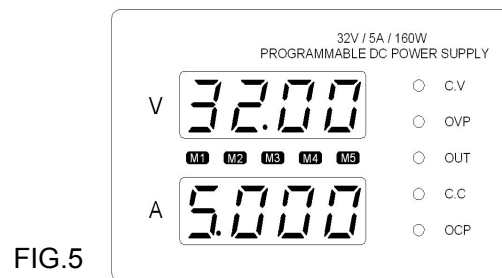
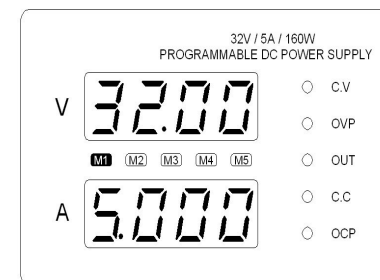
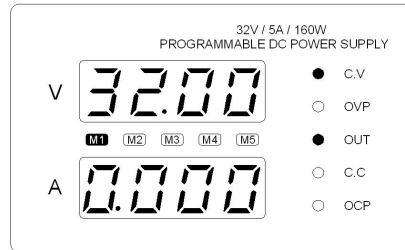

FIG.5
FIG.6 After storage
FIG.7
- (1). Storage operation, first set the preset voltage, current, specific settings can be when used with reference to the normal voltage and current settings methods, voltage and current settings End After, After Press the second function enable key (SHIFT) on the panel, M1 ~ M5LED all lighted, the show voltage and current values are to be stored, see FIG.5 and see FIG.6;
- (2). Press the corresponding memory key output parameters, storage time of M1, M1 pressing keys corresponding to the M1 light-emitting diode light, see FIG.6
- (3). Other in each group stored in the default method and the same M1;
- (4). Out has been stored at the default, press the M1 key to display the stored voltage, current, and then press the shutdown button OUTPUT, can be stored in the output voltage, Current, see FIG.7